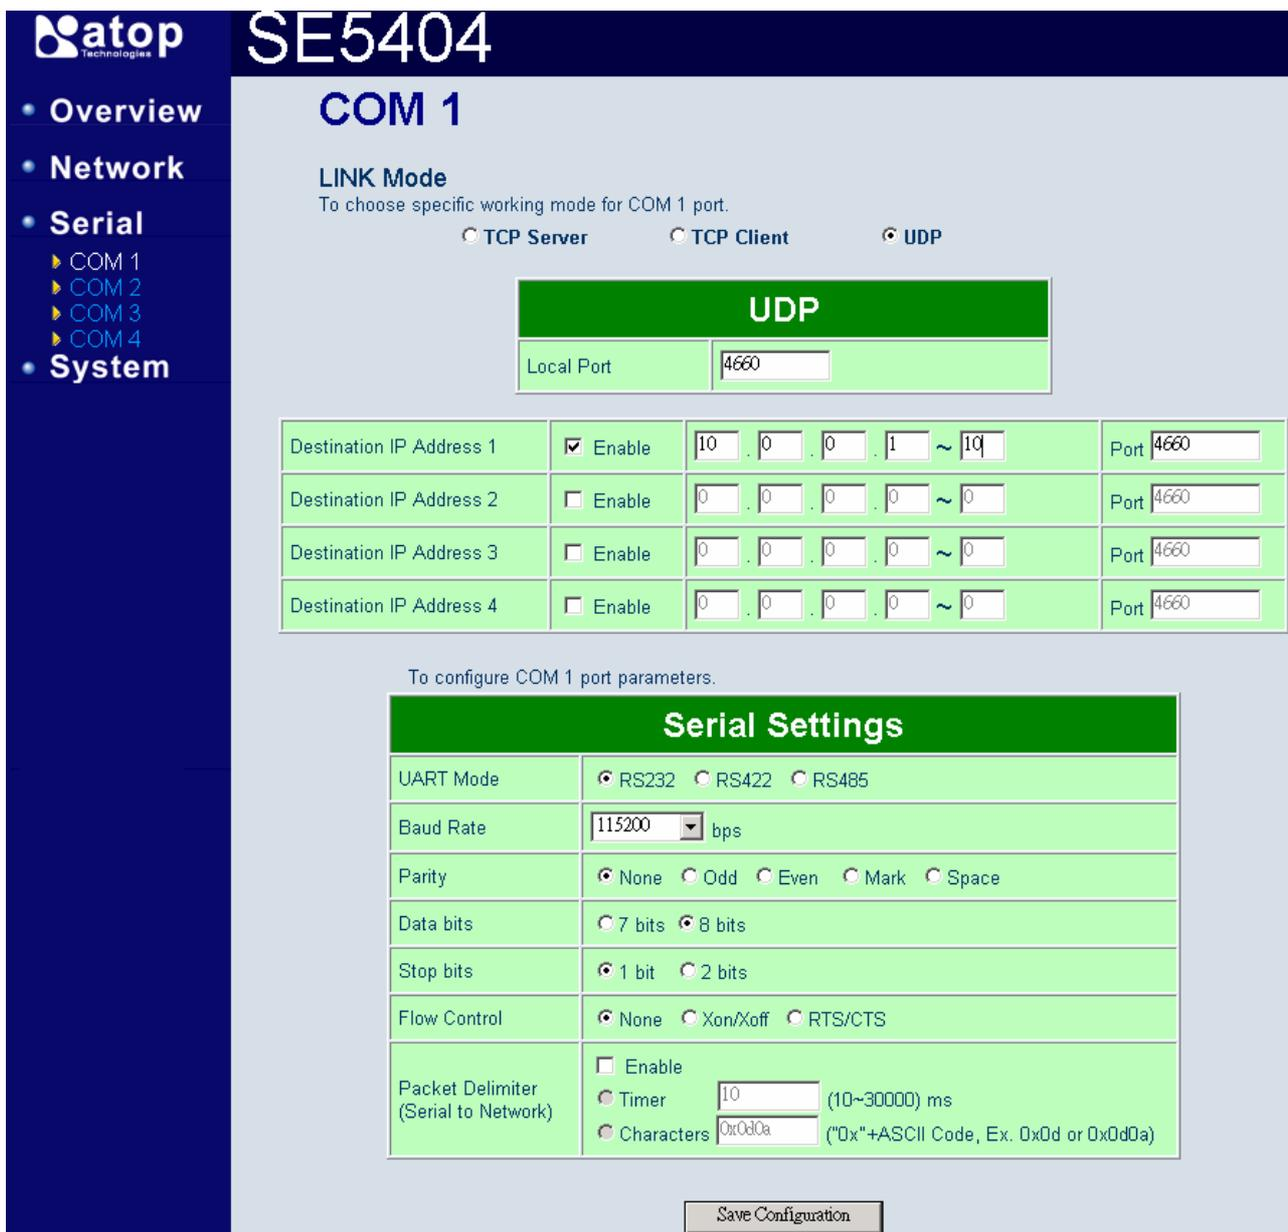

Figure 3.24 Com 1 setup –UDP mode
- 2.One may configure 4 sets Destination IP addresses with different IP range and different port numbers (Figure 3.24)